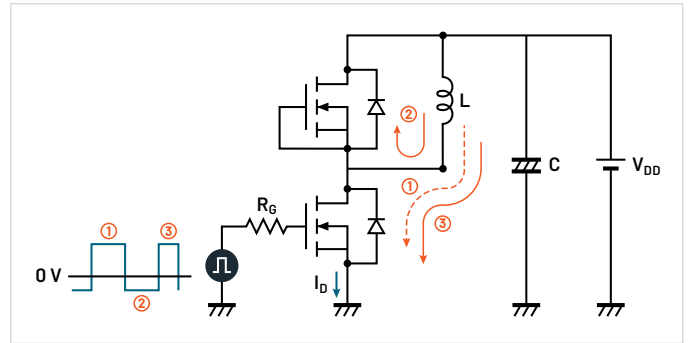
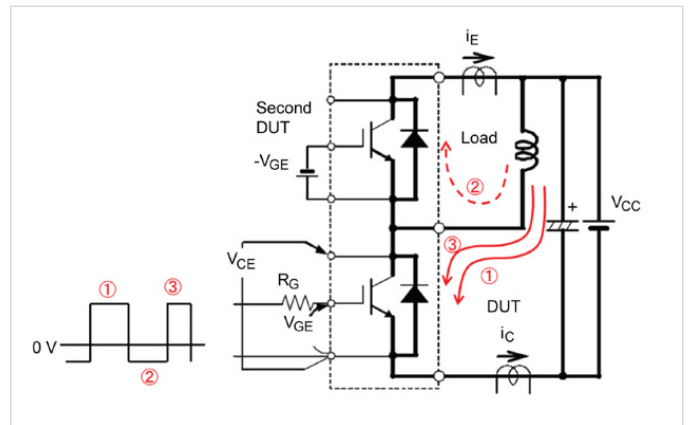
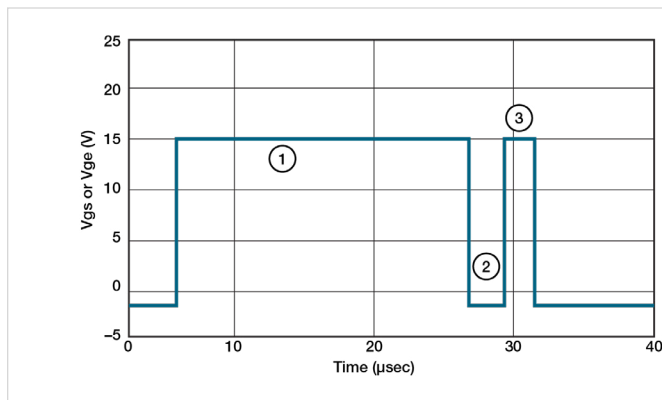

Figure 6: Current Flow with MOSFETs as DUTs.
Figure 7: Current Flow using IGBTs as DUTs.
Figure 8: Typical Waveforms of the Double Pulse Test.
Figure 6 shows the current flow within the different stages of the test for a Double Pulse Test with MOSFETs. The same current flow would apply when using IGBTs as shown in **Figure 7**.
Figure 8 shows typical measurements taken on the low side MOSFET or IGBT. Here are the different stages of the Double Pulse Test (These stages refer to **Figures 6, 7 and 8**)
- The first step, represented by turn-on pulse number 1, is the initial adjusted pulse width. This establishes current in the inductor. This pulse is adjusted to get to the desired test current (I_D) as shown in **Figure 8**.
- The second step (2) is to turn-off the first pulse, which creates current in the free-wheeling diode. The turn-off period is short to keep the load current as close as possible to a constant value through the inductor. **Figure 8** shows I_D on the low side MOSFET that goes to zero in step 2; however, the current is flowing through the inductor and the high side diode. This could be seen in **Figures 6 and 7**, as the current flows through the diode of the high side MOSFET (the MOSFET that doesn't get turned on).
- The third step (3) is represented by the second turn-on pulse. The pulse width is shorter than the first pulse so that the device is not overheated. The second pulse needs to be long enough for the measurements to be taken. The current overshoot seen in **Figure 8** is due to the reverse recovery of the free-wheeling diode from the high side MOSFET/IGBT.